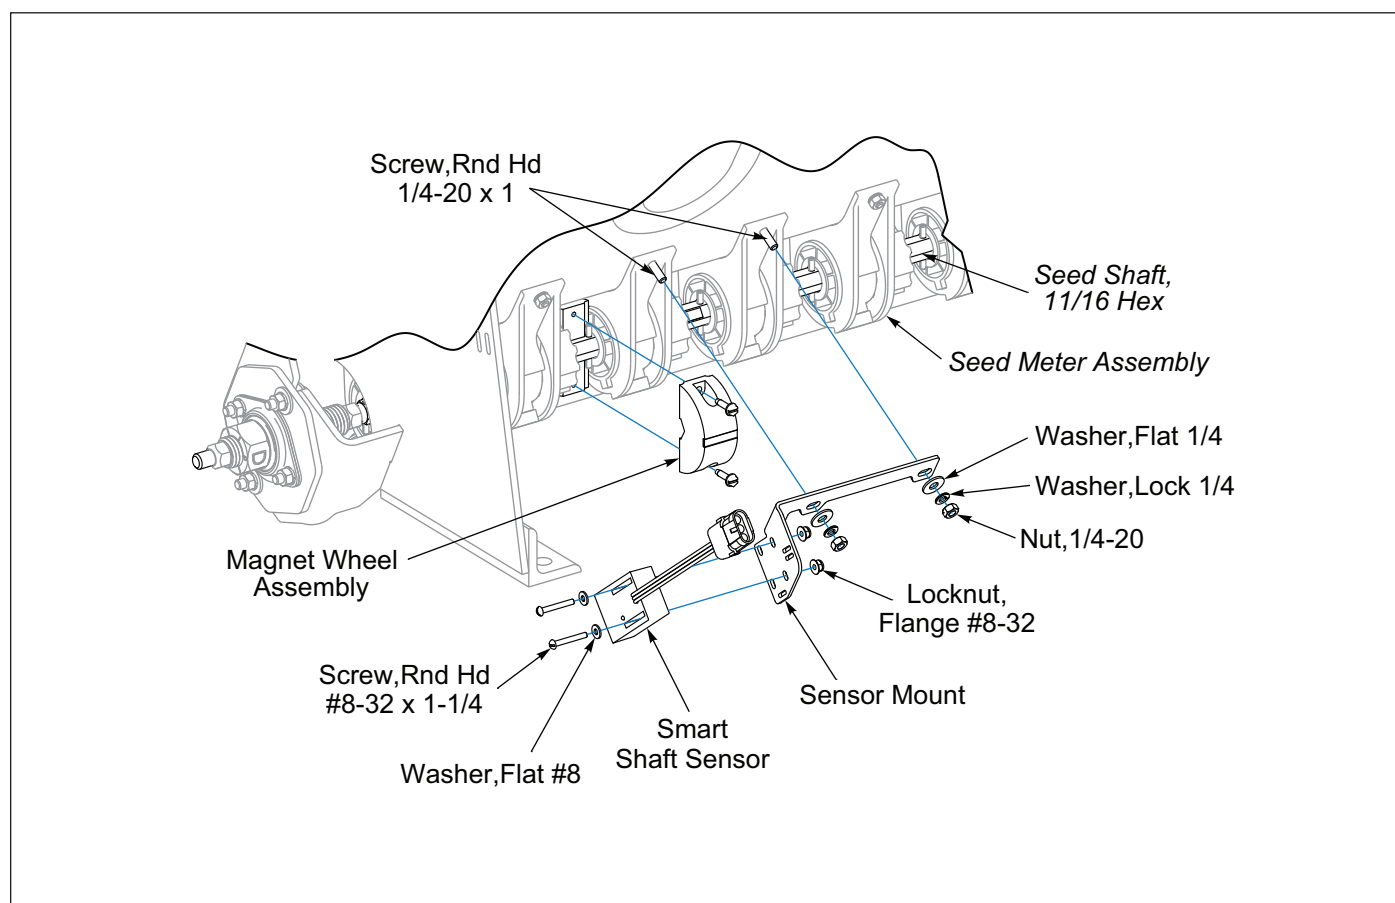

Figure 2-34: Brillion Elite Mini Monitor - Front Seed Box Seed Shaft Sensor
3. Front RH side Seed Box between the 2nd and 3rd Seed Meters, install Magnet Wheel Assembly on the Hex Seed Shaft. **See Figure 2-34.** Remove the 3rd and 4th Seed Meter front Round Head Machine Screws that mount the Seed Meter to the Seed Box and replace them with 1/4-20 x 1 Round Head Machine Screws. Install the Sensor Mount on the 1/4-20 x 1 Machine Screws. Secure with Flat Washers, Lock Washers and Nuts. Install a Smart Shaft Sensor to the Sensor Mount with sensor provided hardware and #8-32 Flange Locknuts. Adjust the Smart Shaft Sensor so that it is 1/8" Max away from the Magnet Wheel Assembly on the Seed